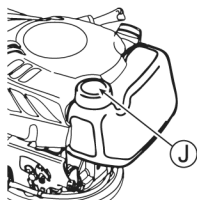

Fig. 8
1. Open Fuel tank cap (J) and refuel gasoline. Immediately wipe off with a rag if gasoline is spilt. (See Fig. 8)
2. Firmly close Fuel tank cap (J) after refueling.